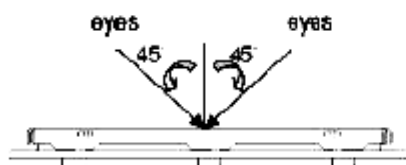

Fig. 1
See figure 1.
(3). The test direction is base on about around 45° of vertical line. (Fig. 1)